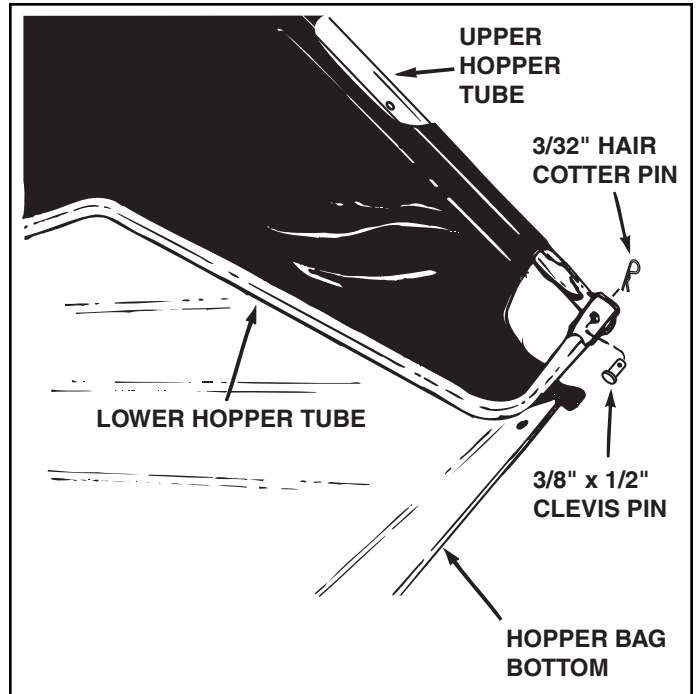

FIGURE 13
- Place the assembled lower hopper tubes into the bottom of the hopper bag as shown in figure 13.
- Attach the ends of the lower hopper tubes to the **inside** of the upper hopper tubes using two 3/8" x 1/2" clevis pins inserted from the inside, and two 3/32" hair cotter pins. See figure 13.